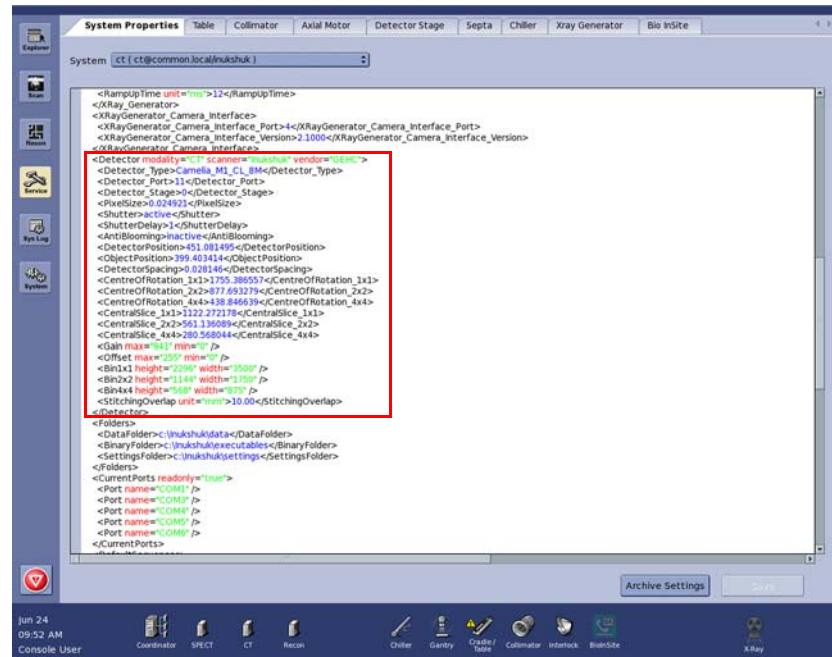

Figure 7-99
- 6.) Use these parameters to change the ten `<Detector>` properties in the System Properties for the CT subsystem on the Service page. (Figure 7-99).
- * Again, click on the scan name, and the last submitted recon parameters will be displayed. Change the Output Name. Enter Z=central slice in the Offset field (use value from System Properties in Figure 7-99) and click the Submit Recon button. Z should still be 3 in the Size field.
- * **-a** is center of rotation (u_0), from System Properties (Figure 7-99)
- * **-s** is central slice (v_0), from System Properties (Figure 7-99)
- * **-d** is detector position from System Properties (Figure 7-99)